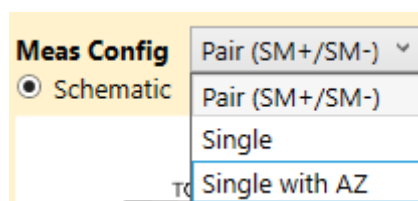

Figure 43. Meas Config Menu
The “Meas Config” menu affects the internal calculations and graphs only (Figure 43), the drop-down list has the following options:
- Pair (SM+/SM-): a pair of measurements, i.e. the SM+ and SM- readings (Figure 43)